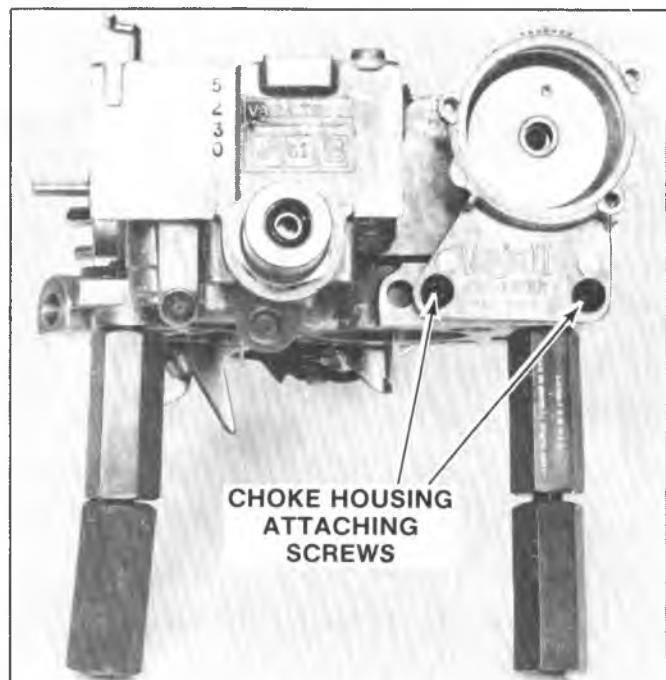

Fig. 6C2-32--Choke Housing Screws
2. Remove (4) throttle body to bowl attaching screws and lockwashers and remove throttle body assembly (Fig. 6C2-33).